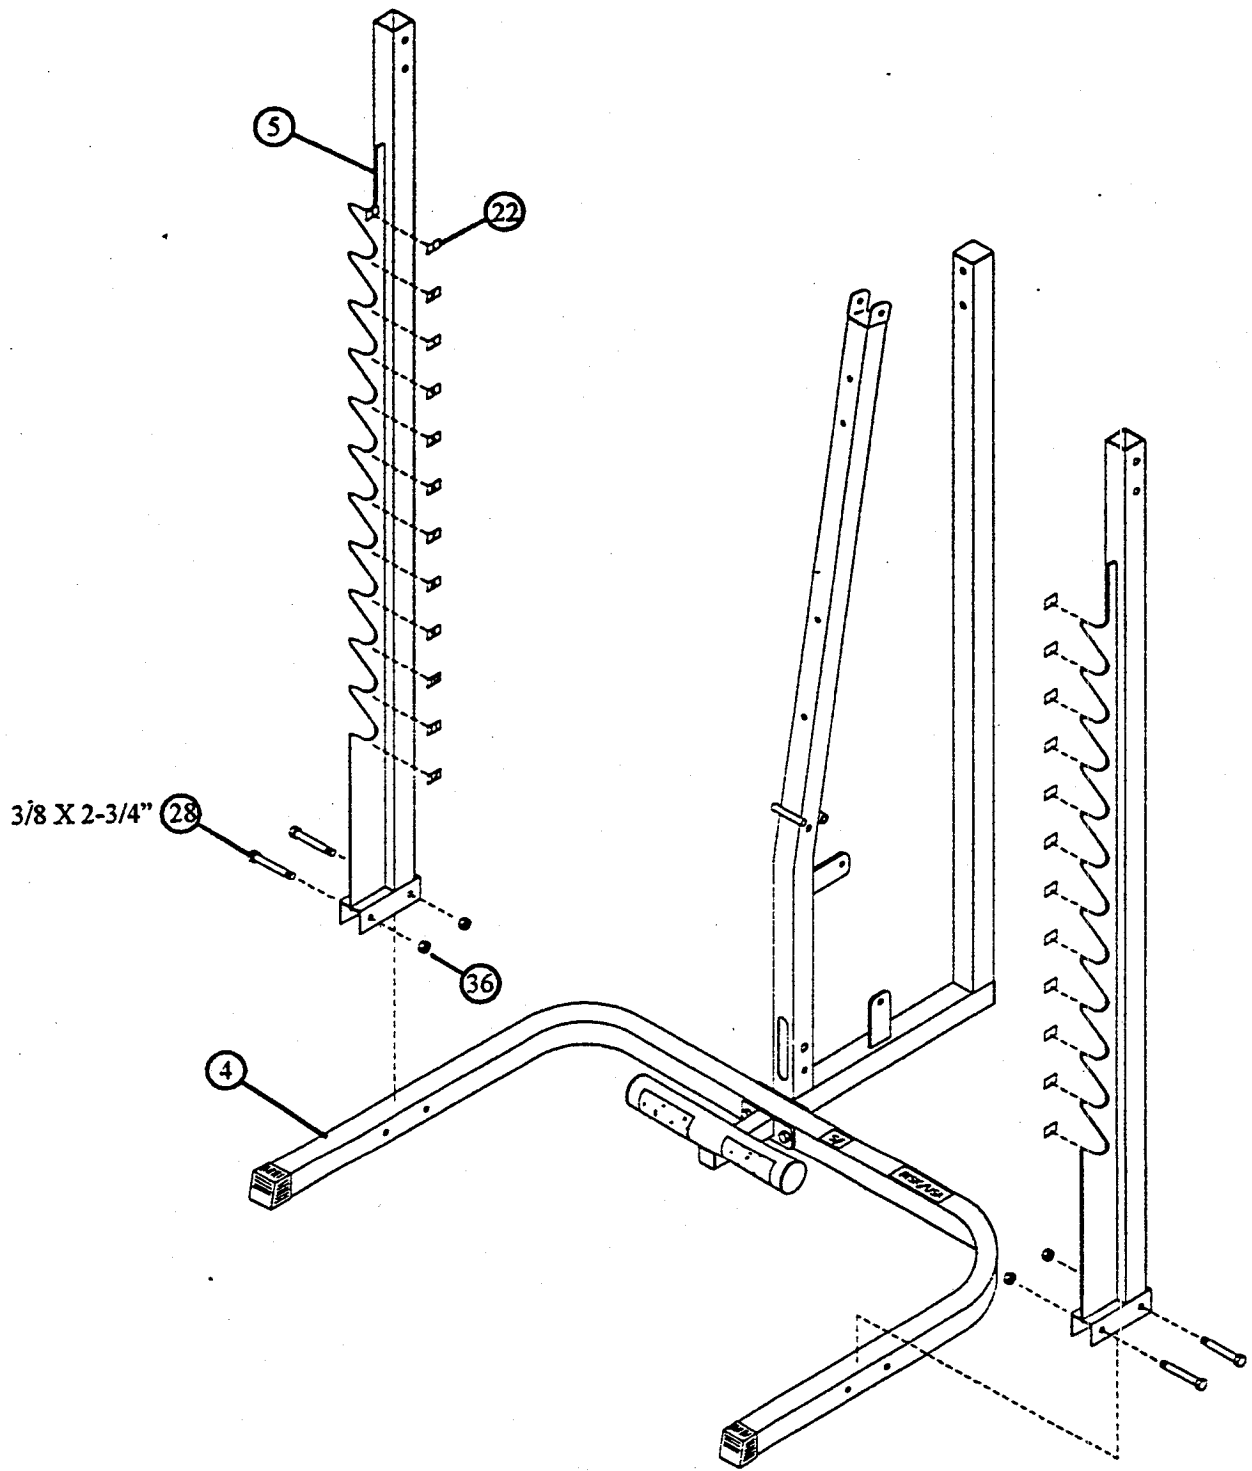

FIGURE 3
- **LOOSELY** assemble the UPRIGHTS (5) to the BENT TUBE (4) using four 3/8 X 2-3/4" BOLTS (28) and four 3/8" LOCK-NUTS (36) as shown in FIGURE 3.
- Attach UPRIGHT LABELS (22) to both of the UPRIGHTS (5) as shown in FIGURE 3.